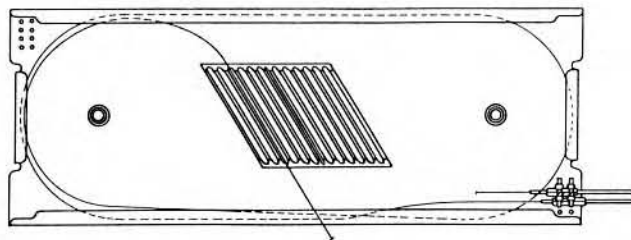

Figure 40
19.09 Select the fibers from one direction of transmission and route them around the tray under the retainer lip until the fibers have made one and a half loops in the tray. Lead the fibers into the splice storage block. Figure 40.
NOTE: One fiber route per figure is shown for clarity in Figures 40 and 41.